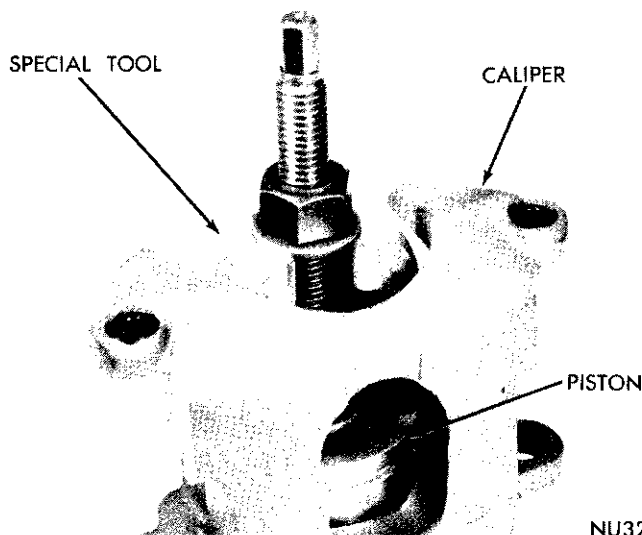

Fig. 10—Removing Piston from Caliper
(1) Mount caliper assembly in a vise equipped with protector jaws (Fig. 10). (Caution: **Excessive vise pressure will cause bore distortion and binding of piston.**)
(3) Using Tool C-4087, remove piston from caliper (Fig. 10). Care must be used so as not to scratch, burr or otherwise damage piston on outside diameter. To do so effects sealing qualities of piston. Draw piston straight out of its bore. If a piston becomes cocked removal is more difficult and piston or bore may be damaged. **CAUTION: UNDER NO CONDITION SHOULD AIR PRESSURE BE USED TO REMOVE PISTON FROM BORE. PERSONAL INJURY COULD RESULT FROM SUCH PRACTICE.**
(1) Clamp caliper in vise (with protector jaws), (Fig. 10). Caution: Excessive vise pressure will cause bore distortion and binding of piston.